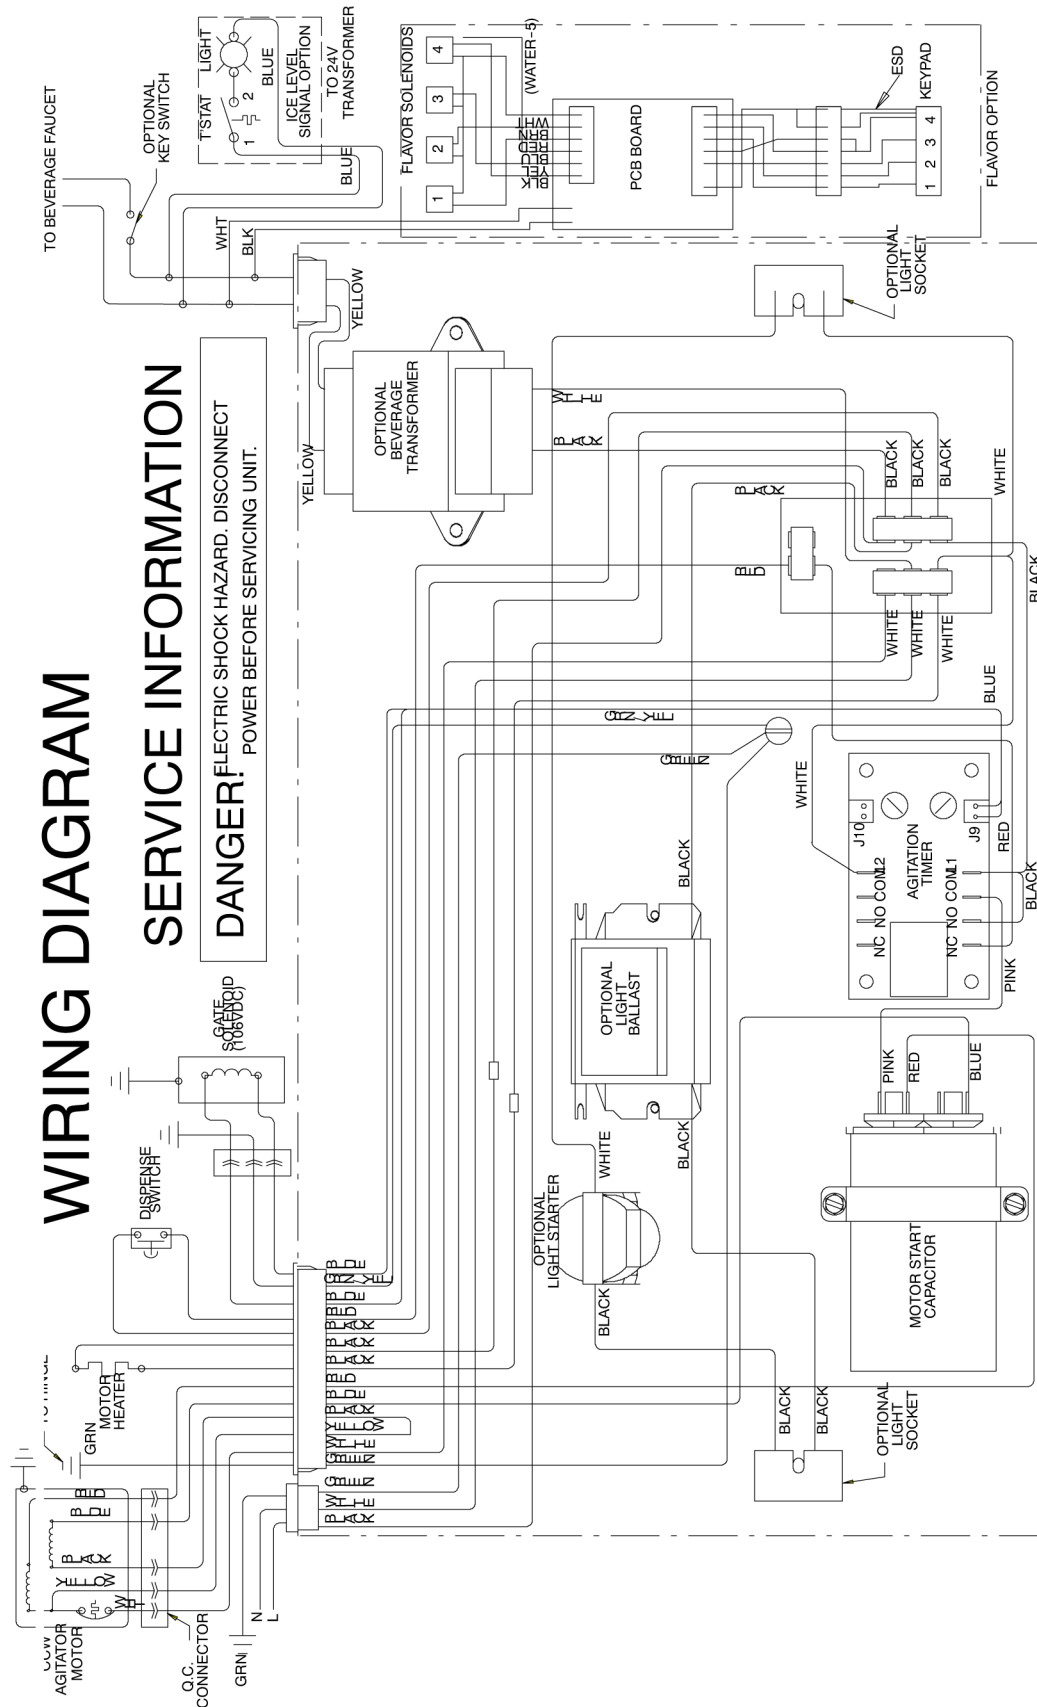

Figure 6. Wiring Diagram (120V)
4. Connect the beverage system product tubes as indicated in applicable Flow Diagram Figure 6 or 7. This work should be done by a qualified service person.